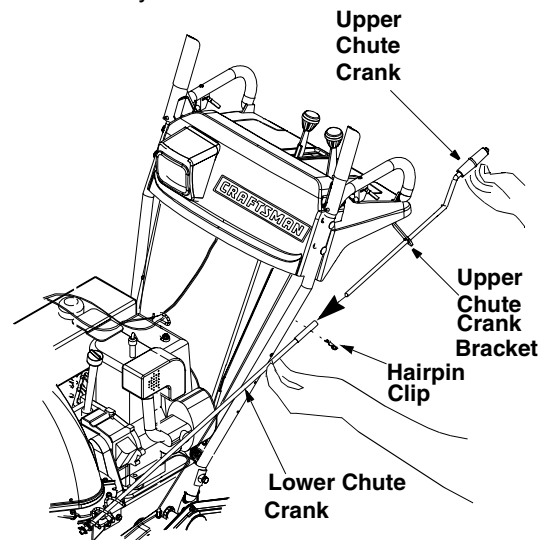

Figure 8
- Slide the upper chute crank through the plastic bushing in the upper chute crank bracket and then into the lower chute crank. See Figure 8. Align the holes on the two pieces of the chute crank, and secure with hairpin clip from group C of the hardware pack.